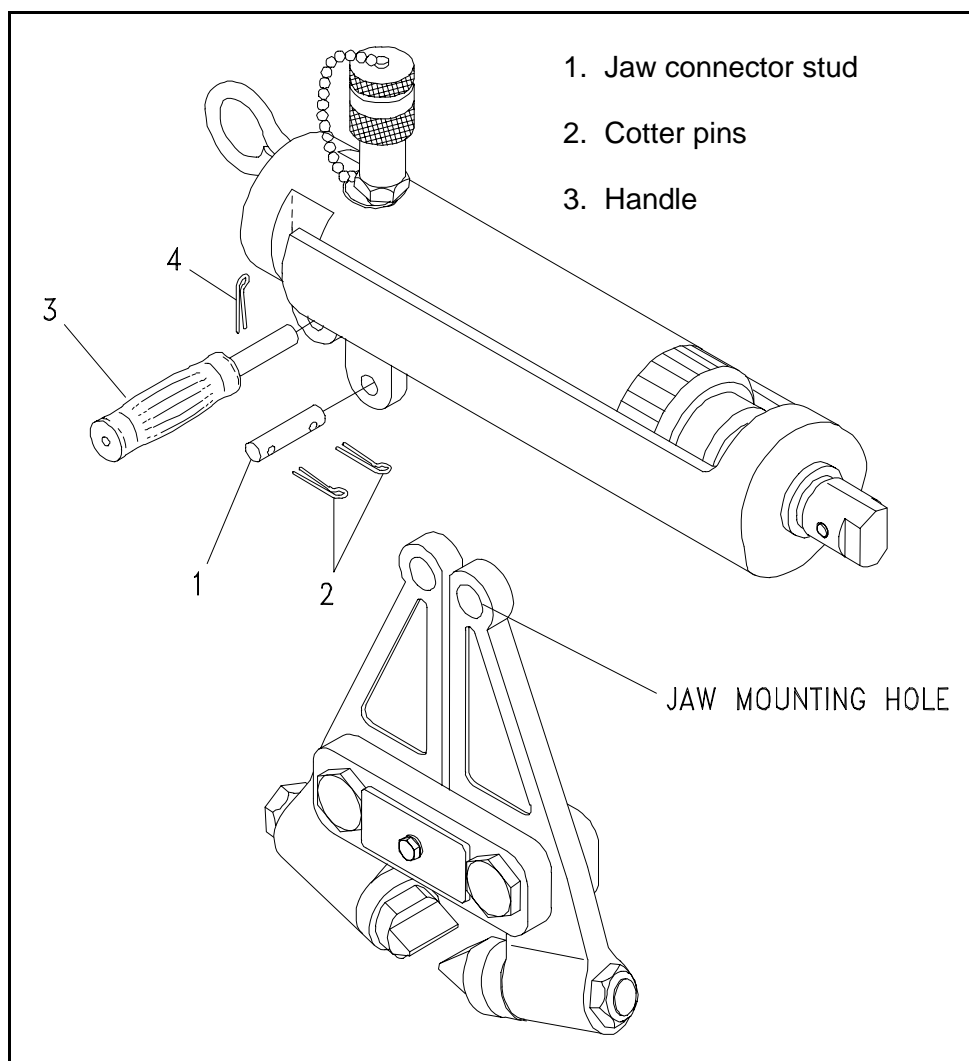

Figure B-4. Attaching Cutterhead to Cylinder Assembly.
The cutterhead jaw mounting holes align with the cylinder and lifter ears. A jaw connector stud (1, Figure B-4) and two cotter pins (2) mounted through the lifter ear and jaw mounting hole secure one side, while the handle bar (3) and cotter pin (4), inserted through the cylinder ears and the jaw mounting hole, secures the other.